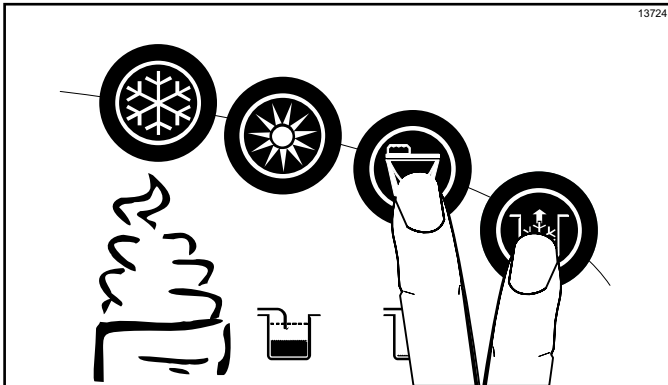

Figure 6-41
13. Press the Wash and Pump keys   and close the draw valve. (See Figure 6-41.)